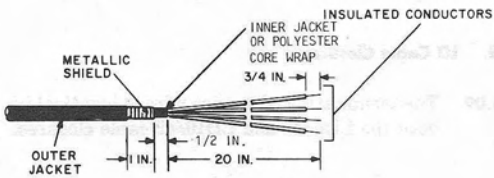
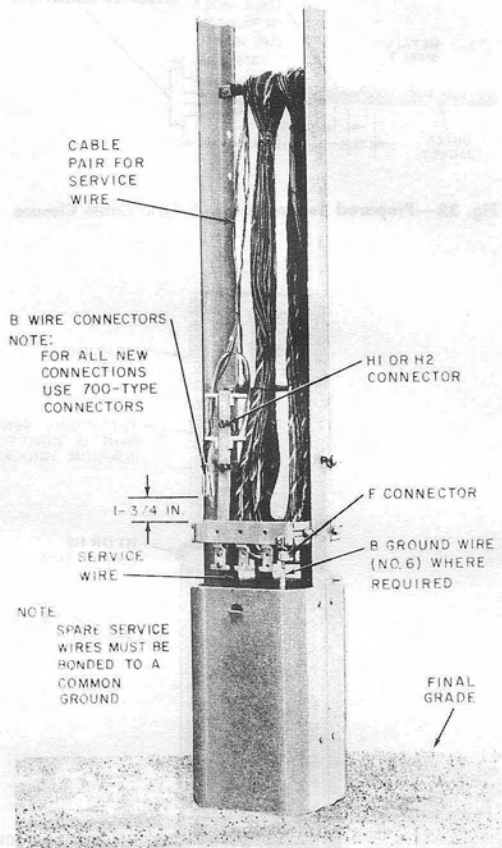

Fig. 34—Prepared Service Wire—LD-Type Cable Closure
Fig. 35—Service Wire Installed—LD-Type Cable Closure
6.10 Prepare the service wire as shown in Fig. 34 and terminate as illustrated in Fig. 35.